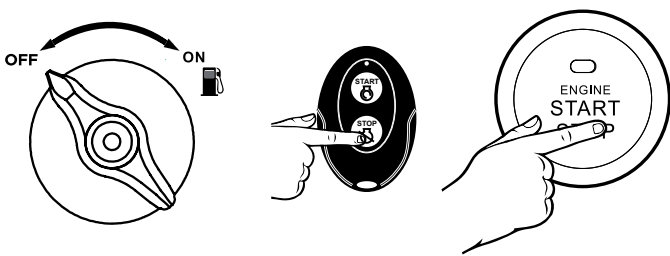

Figure 11: Stopping Generator
3. Move the Fuel Control Switch to the **OFF** position, press “Stop” on remote start key fob, or press the push button start once (see Figure 11).